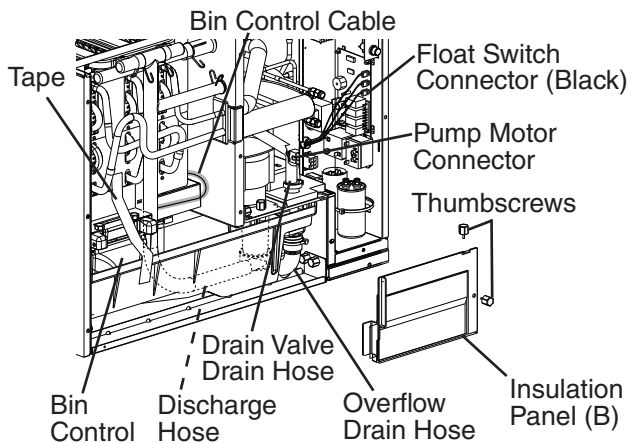

Fig. 3
- 1) Remove the control box cover. Remove the 2 thumbscrews securing insulation panel (B), then remove insulation panel (B). See Fig. 3.